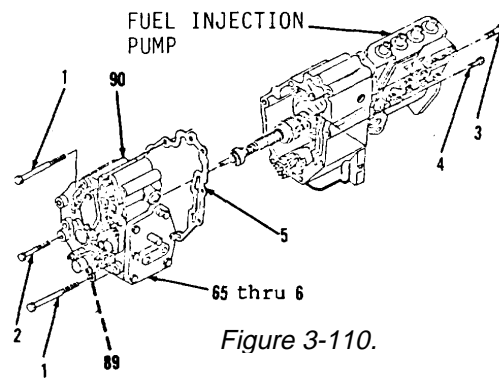

Figure 3-110.
59. Position new gasket (5) and items 65 thru 6 as an assembly on dowels (89) in housing (90, Figure 3-110).
60. Install bolt (4), two bolts (3 and 2) and four bolts (1).